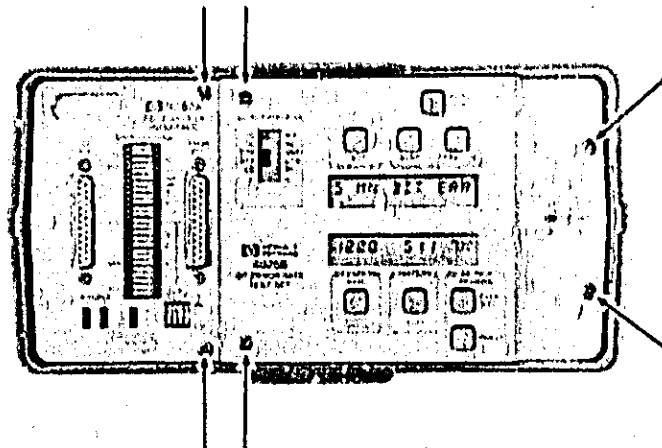

Figure 8-1. Front Panel Screw Location
1. Remove the four 6-32 screws from the HP 4925B front panel and the two 6-32 screws from the interface. Figure 8-1 shows the screw locations.